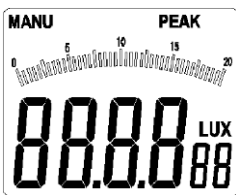

Figure 3-1-2B
- Press and hold "REL/PEAK" key for one second, the device will enter the peak value measurement mode, "PEAK" LCD will appear on the top right position of the LCD interface, and at the same time, "MENU" will appear on the top left position of the LCD interface (as shown in figure 3-1-2B);